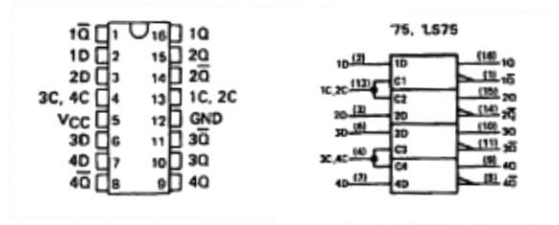
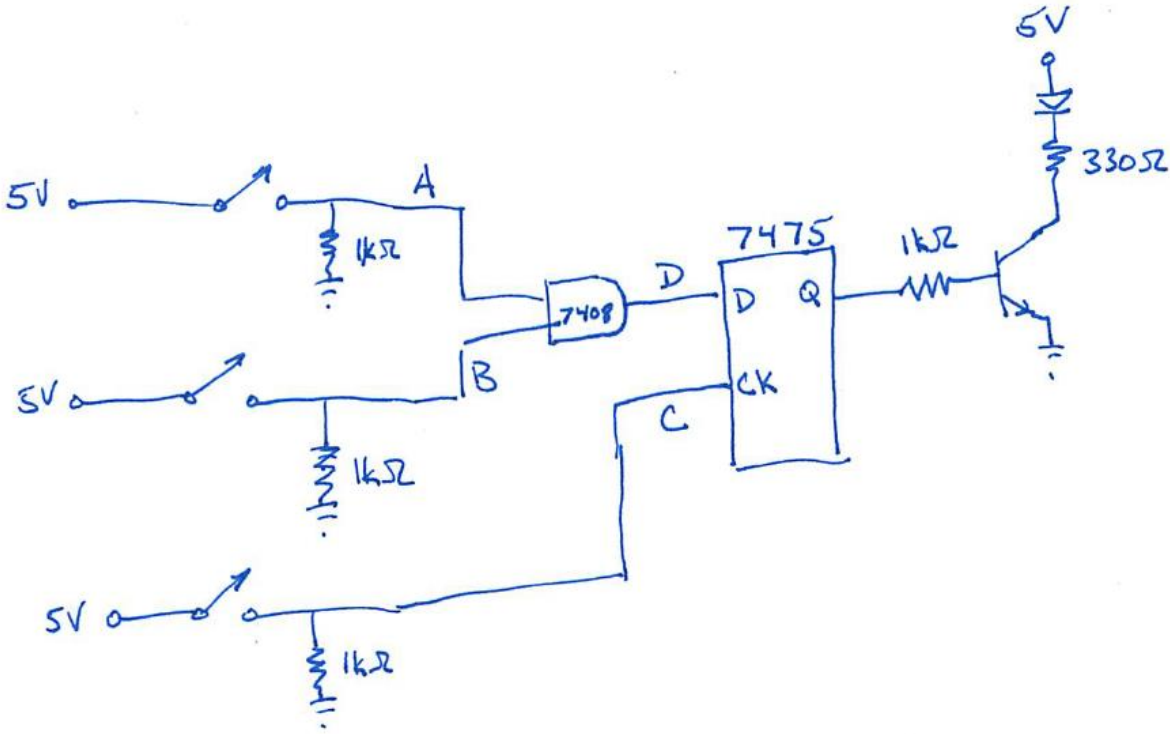

Figure 10.6 Pin-out and schematic symbol diagrams for the 7475
Figure 10.9 Data Latch Circuit (level triggered)
3. Replace the 7474 with the 7475 bistable data latch and rewire the circuit based on the pin-out diagram in Fig. 10.6. The circuit schematic is shown in Fig. 10.9. The only difference from the previous circuit is that the DataLatch is not edge triggered.